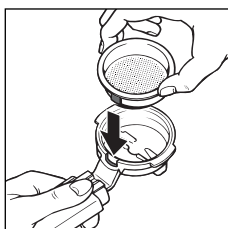

fig. 13
1. After preheating the appliance, the machine is ready to be used. Insert the ground coffee filter with frother into the filter holder, making sure the tab is correctly inserted into the housing as shown in fig. 13.